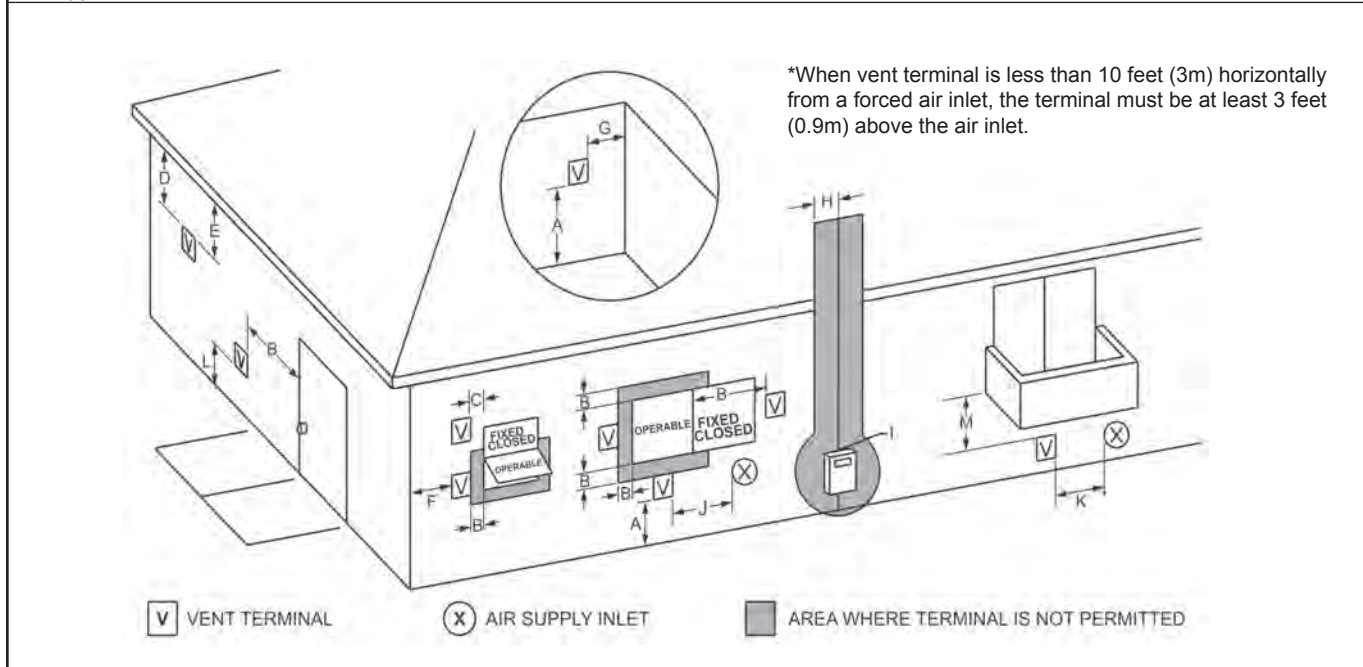

Figure 3 - Combustion Air and Vent Through Side Wall
4. If the Rheos is side-wall vented to the same wall, locate the vent terminal at least 3 feet (0.9m) horizontally from the combustion air terminal, and locate the vent terminal at least 1 foot (0.3m) above the combustion air terminal (see Figure 3).